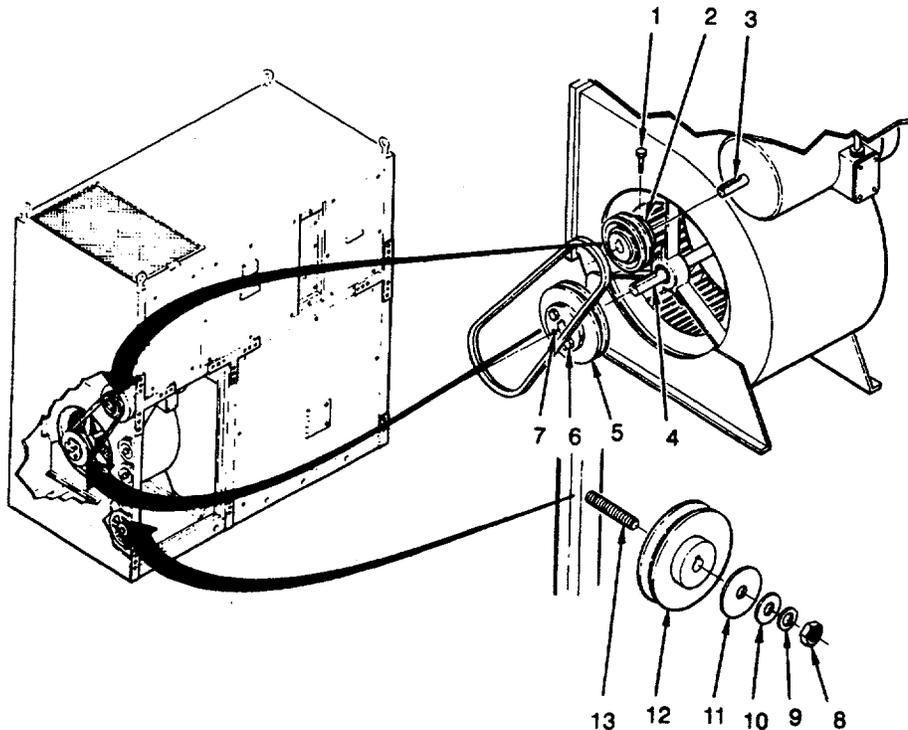

Figure 4-78. Pulleys 60 Hz, Green (Condenser Motor and Circulator Fan)
1. Check condenser motor pulley diameter measures 4 1/2 inches (11.4 cm) and circulator fan pulley diameter measures 6 3/4 inches (17.1 cm). If measurements are not correct, install correct pulley (see Figure 4-78).